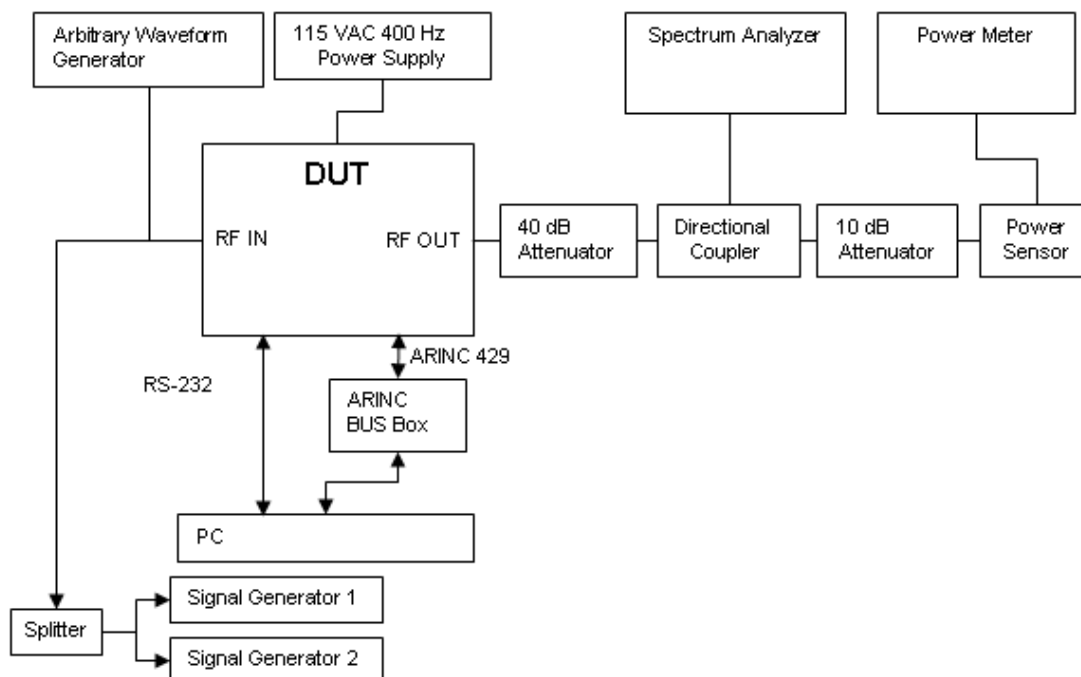

Figure 4.8 ATP setup
Step 1: Connect the Arbitrary Waveform Generator to the RF IN of the DUT as shown in Figure 4.8.